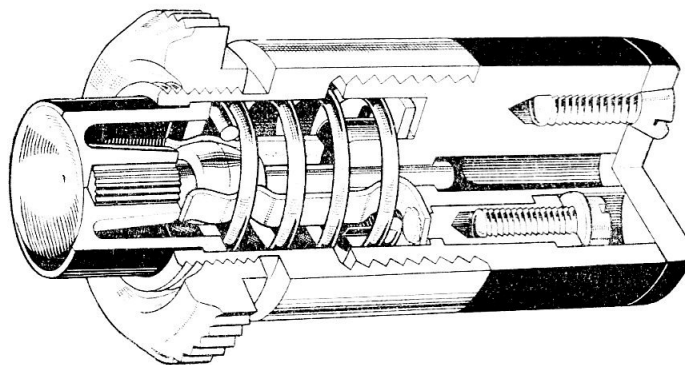

Fig. 1. Push-switch, Type 41EAP
2. A sectional view of the switch is given in fig. 1. The body of the switch is constructed in two parts. The rear part is moulded in a